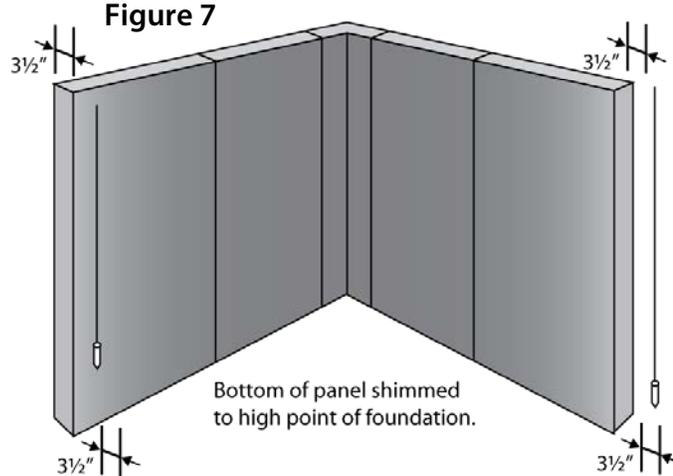
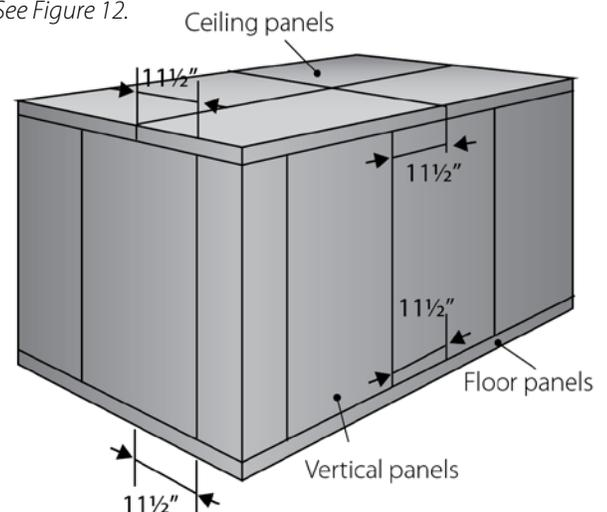

**Figure 6**
Figure 10
- E. Continue installing vertical panels in the same manner, periodically checking to make sure that panels remain plumb and level. *See Figure 6 (staggered locking sequence).*
- E. To check for correct alignment measure the distance from the edge of the ceiling or floor to the nearest vertical joint. This should be 11 1/2 inches and maintained at every joint of the Walk-In. Use a staggered locking sequence as shown in Figure 6. See Figure 10.
- C. In large multi-compartment Walk-Ins, (three compartments or more) it is very important to control the alignment of the panels and make sure if there is any growth in the vertical panels that they are growing at the same rate as the ceiling and floors. A quick and accurate way to check for correct alignment is to measure the distance from the edge of the ceiling to the nearest vertical panel joint. This measurement must be 11½"; it must be maintained at every joint to assure proper assembly of the Walk-In. See Figure 10. In these instances we recommend that after the floors are placed and leveled that the center most partition be the starting point and to work toward either end of the box.